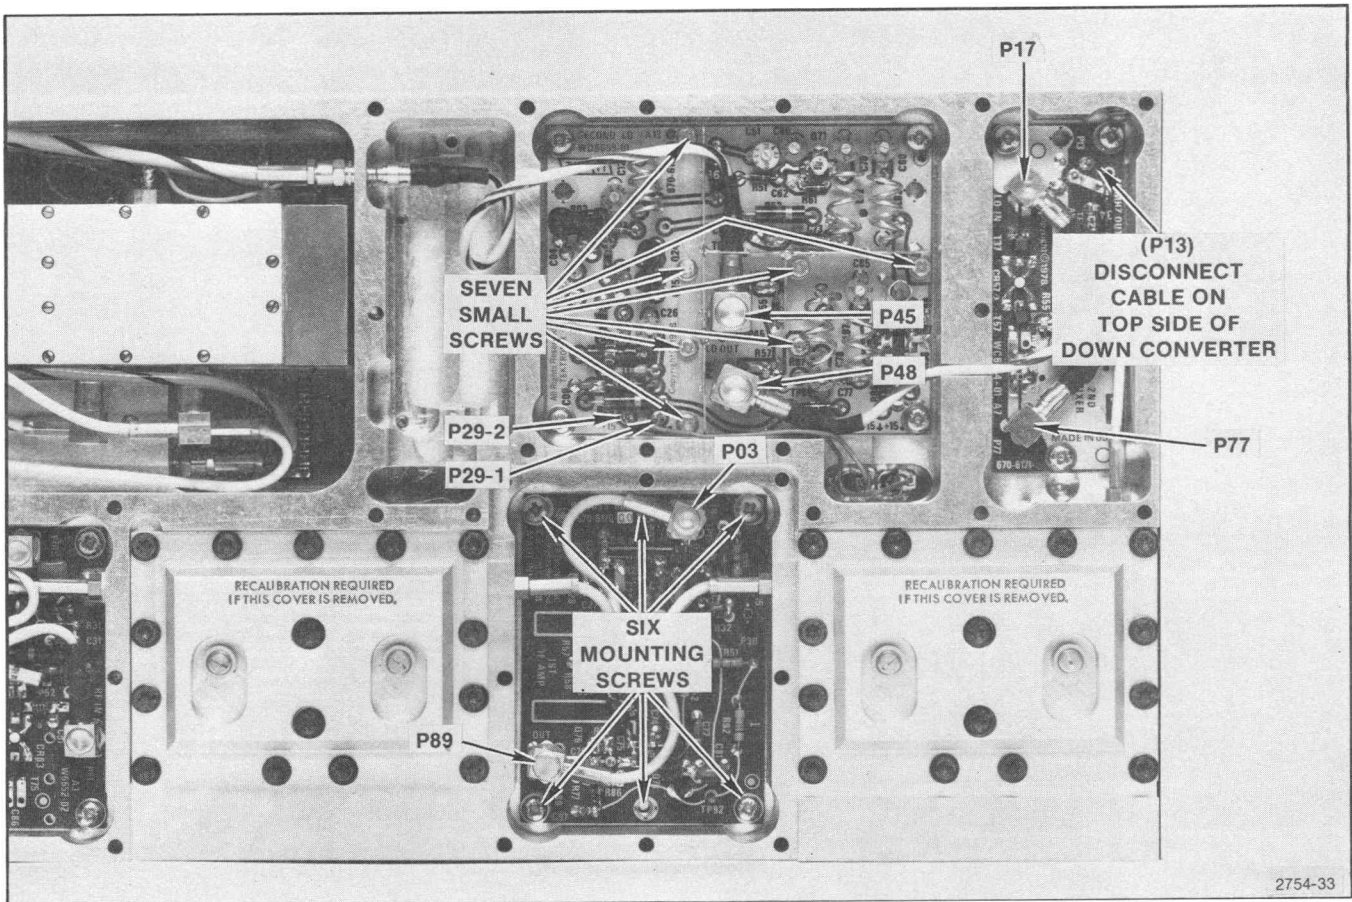

Fig. 5-8. Removing the 1st IF amp, 2nd LO, and 2nd mixer boards.
Removing the 1st IF Amp Board (A5) (See Fig. 5-8)
2. Disconnect P03 and P89. See Fig. 5-8.
Removing the 2nd Mixer (A7) (See Fig. 5-8)
5. Disconnect P17 and P77, and remove the three screws shown in Fig. 5-8.
Removing the 2nd LO Board (A11) (See Fig. 5-8)
3. Remove four screws from the corners of the board, and remove seven smaller screws shown in Fig. 5-8.